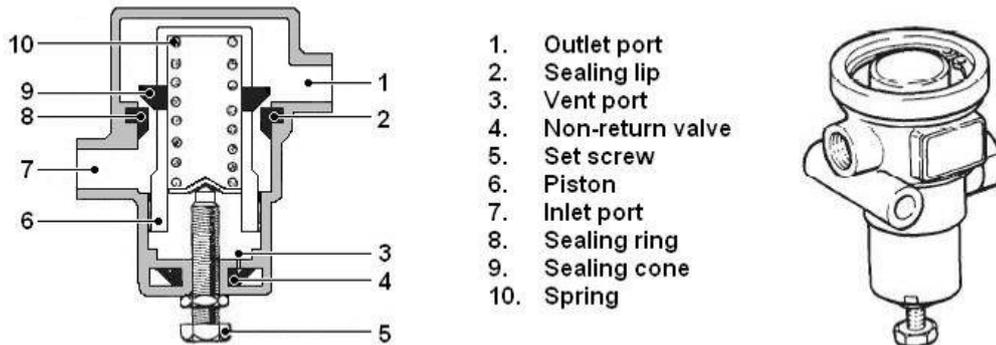

Figure 35 Pressure Limiting Valve (Brake Circuit)
- b. **Brake Circuit.** A representation of the brake circuit valve is shown in Figure 35. The valve is shown with no compressed air input. The piston (Item 6) is at the top stop due to the compression of the spring (Item 10). Compressed air is fed to the inlet port (Item 7), flows through the gap between the sealing cone (Item 9) on the piston and sealing ring (Item 8) and flows to the load through the outlet (Item 1). As the pressure at the outlet port increases it forces the piston down against spring force until the sealing cone comes into contact with the sealing ring, thus isolating the inlet from the outlet at the required pressure. If the outlet pressure drops slightly, the piston opens the passage until the required outlet pressure is re-established. If the inlet pressure drops below the outlet pressure, the compressed air flows via the non-return sealing lip (Item 2) on the sealing ring to the inlet port. The scavenging area of the plunger is vented to atmosphere via the vent port (Item 3) and the non-return valve (Item 4). The set pressure limit can be altered by changing the compression of the spring by means of the set screw (Item 5).